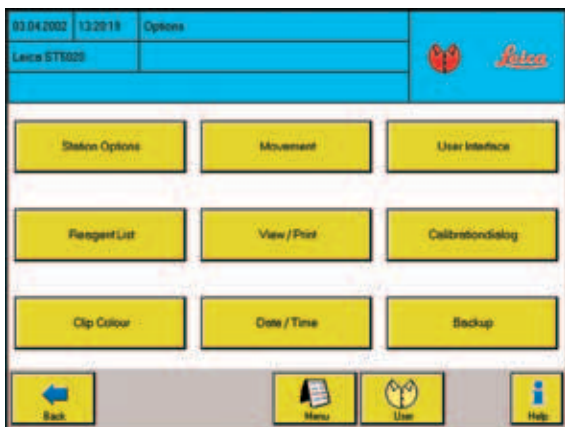

Fig. 49
- Screen indication and functionality of stations are identical to the **INSTRUMENT STATUS** screen (see Fig. 49).